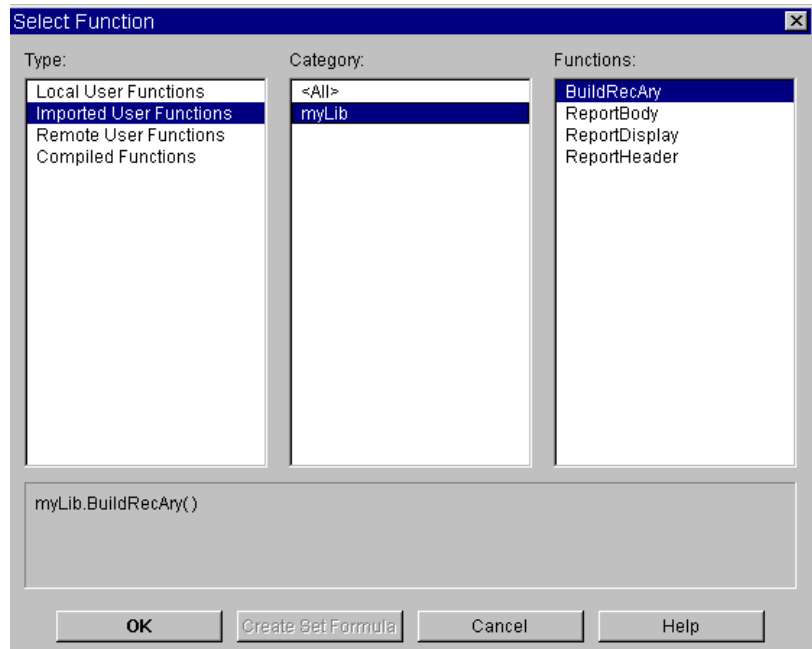

Figure 8-18. Selecting a Function from an Imported Library
5. Open the `Call Function` object menu and click `Select Function` to show a list of the functions imported with the `Load Lib` command. Select `myLib.BuildRecAry` as shown in Figure 8-18.